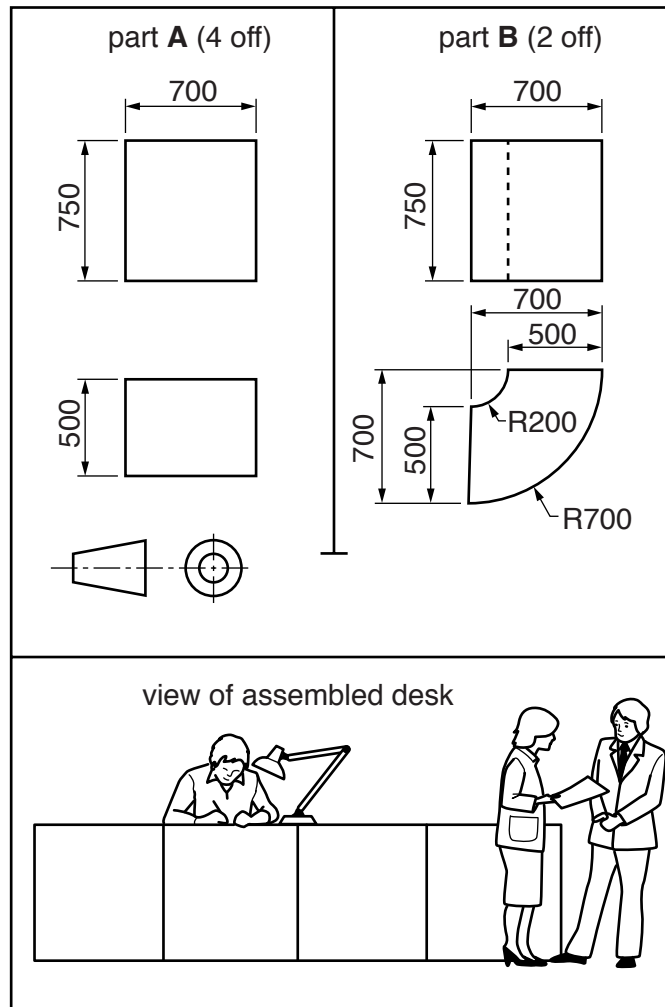

Fig. 2
- 2 Fig. 2 gives details about a hotel reception desk. The desk is made out of six pieces. A 1 : 10 scale model of the desk, made from card, is to be produced in a school workshop.